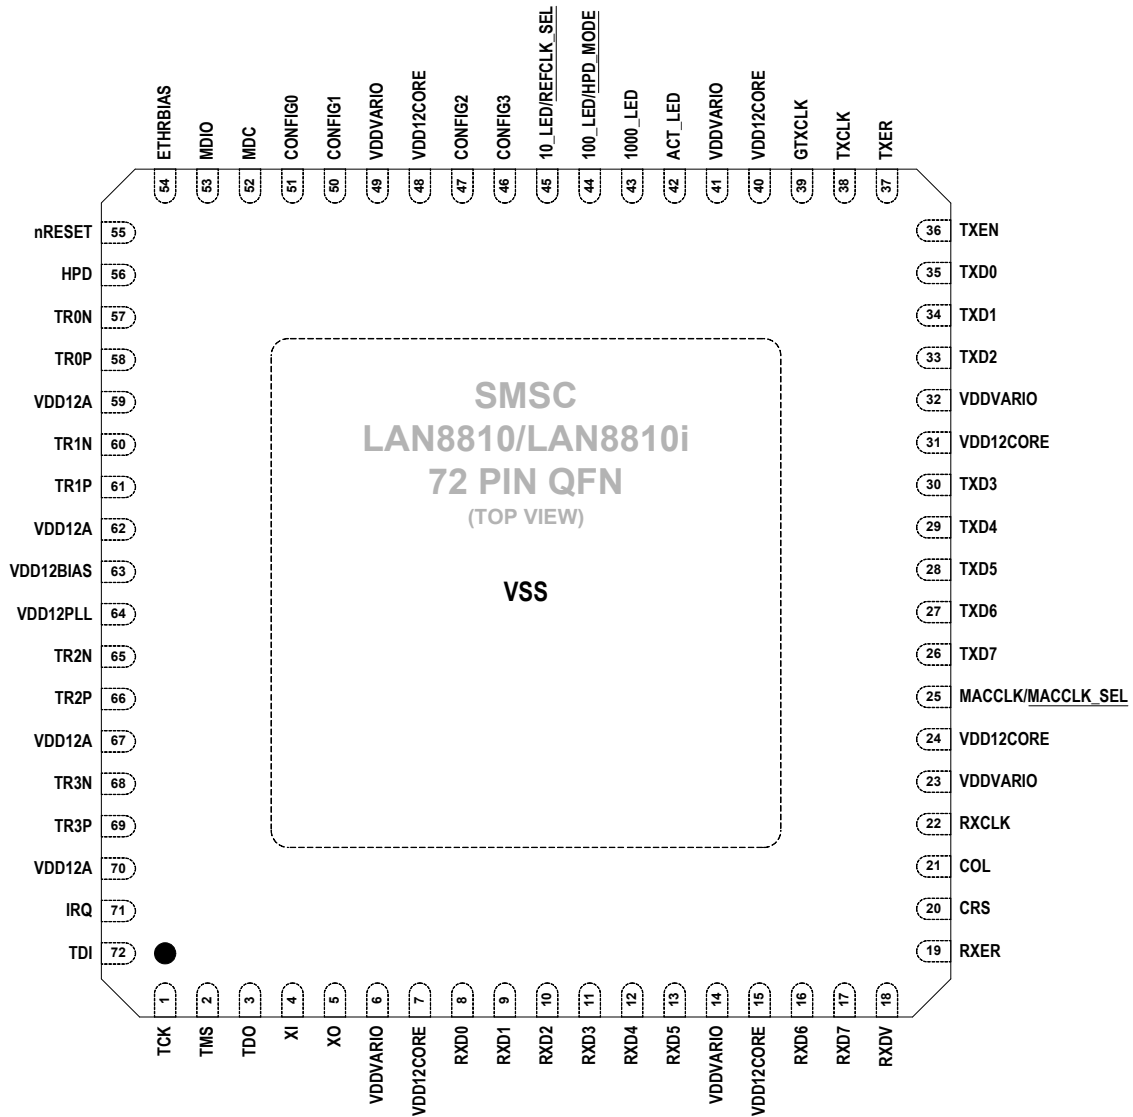

Figure 2.1 72-QFN Pin Assignments (TOP VIEW)
| Figure 2.1  | 72-QFN Pin Assignments (TOP VIEW)                                   | 10 |
**Note 2.3** Exposed pad on package bottom (Figure 2.1).